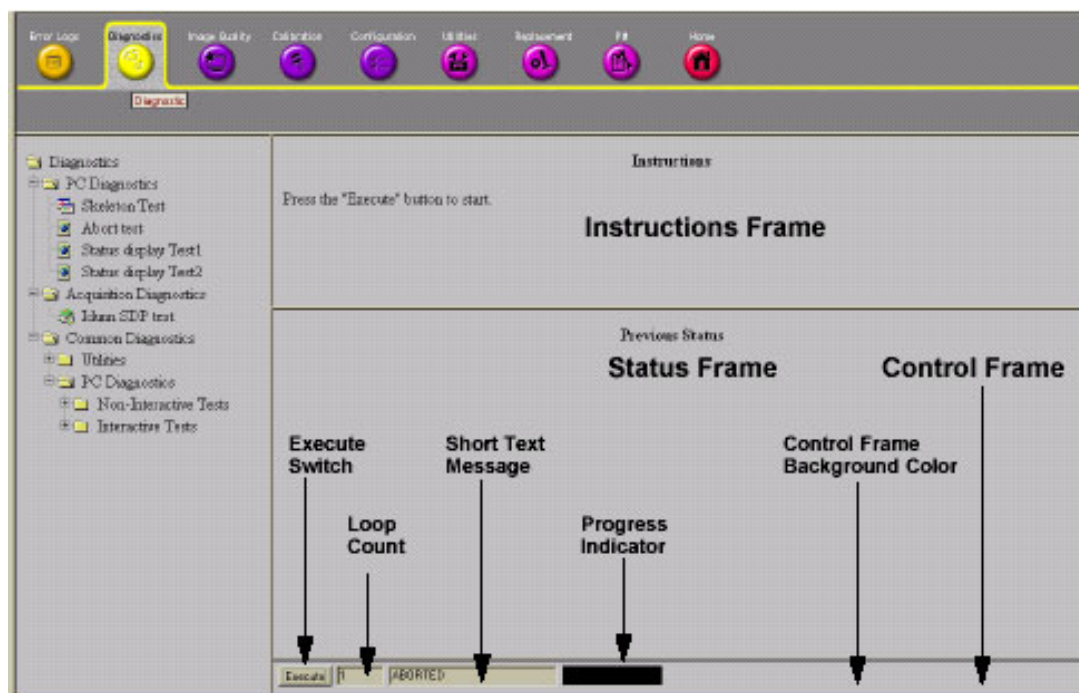

Figure 7-1 User Interface Diagnostics screen
As described in *Chapter 5*, the overall service platform uses a web-based user interface (UI) to provide access to common service components. Upon selecting a test, the Diagnostic screen divides into three frames as shown in Figure 7-1 on page 7-5 below. These are: